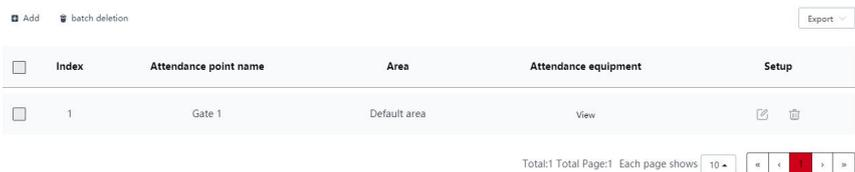

Figure 5-86
Step 3: Fill in the attendance point information (attendance point name, area, attendance device), and click "Submit" to complete the attendance point addition, as shown in Figure 5-86 below.